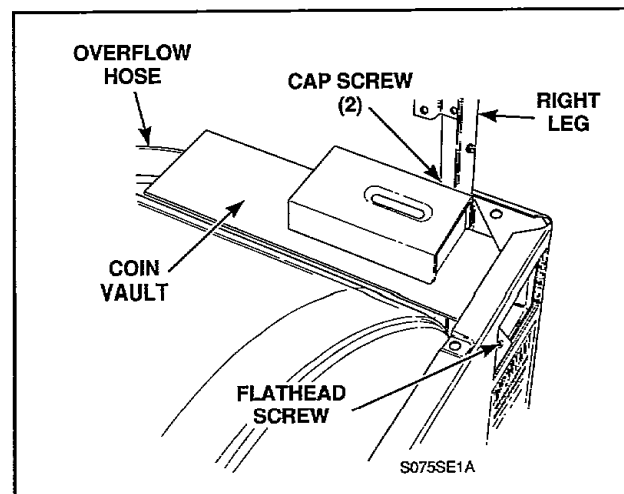
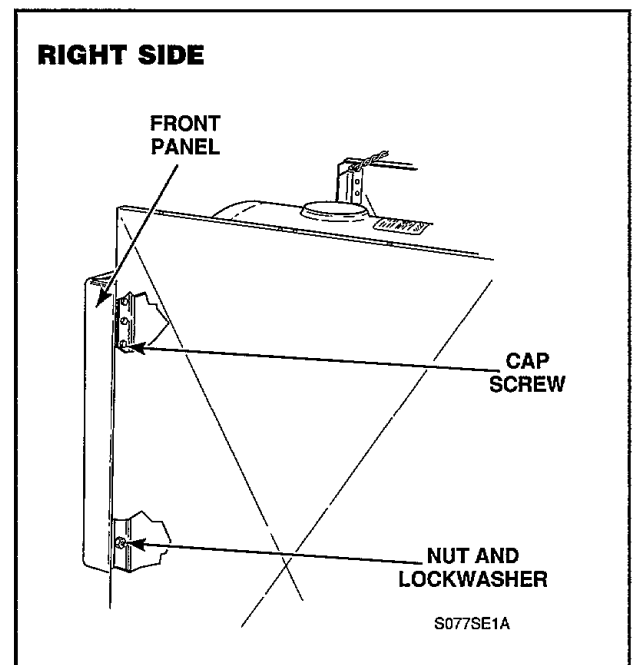
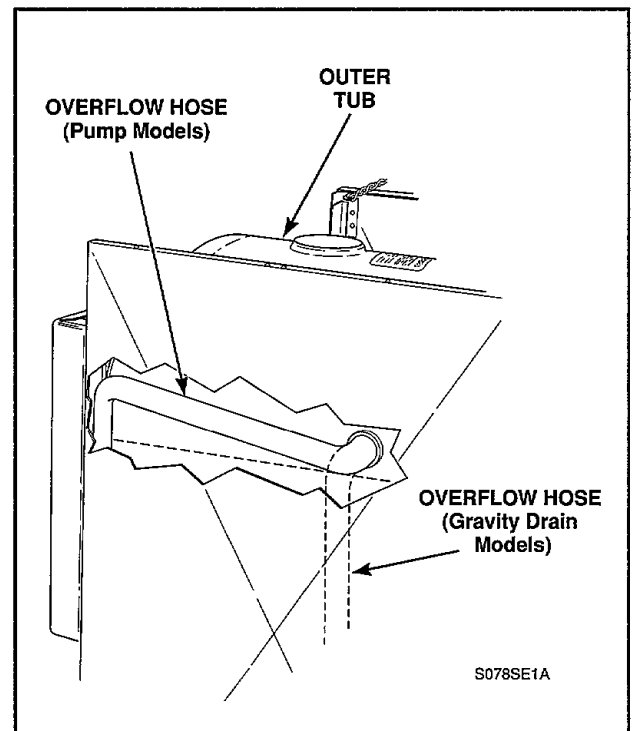

Figure 16
Figure 18
Figure 20
- Remove flathead screw and locknut holding coin vault to front panel, *Figure 16*.
- Remove two cap screws and lockwashers holding coin vault to right leg, *Figure 16*.
- k. **METERED MODELS** — Remove flathead screw and locknut holding coin vault to front panel, *Figure 16*, then remove two cap screws and lockwashers holding coin vault to right leg, *Figure 16*.
- m. Remove nut and lockwashers (bottom), and cap screw (top), *Figure 18*, holding front panel assembly to right leg.
NOTE: PUMP MODELS — Overflow hose, *Figure 16*, may have to be pushed down to gain access to cap screw holding top of front panel assembly to right leg, *Figure 18*.
- m. Remove nut and lockwasher (bottom), and cap screw (top) holding front panel assembly to right leg, *Figure 18*.
NOTE: PUMP MODELS - Overflow hose, *Figure 20*, may have to be pushed down to gain access to cap screw holding top of front panel assembly to right leg, *Figure 18*.